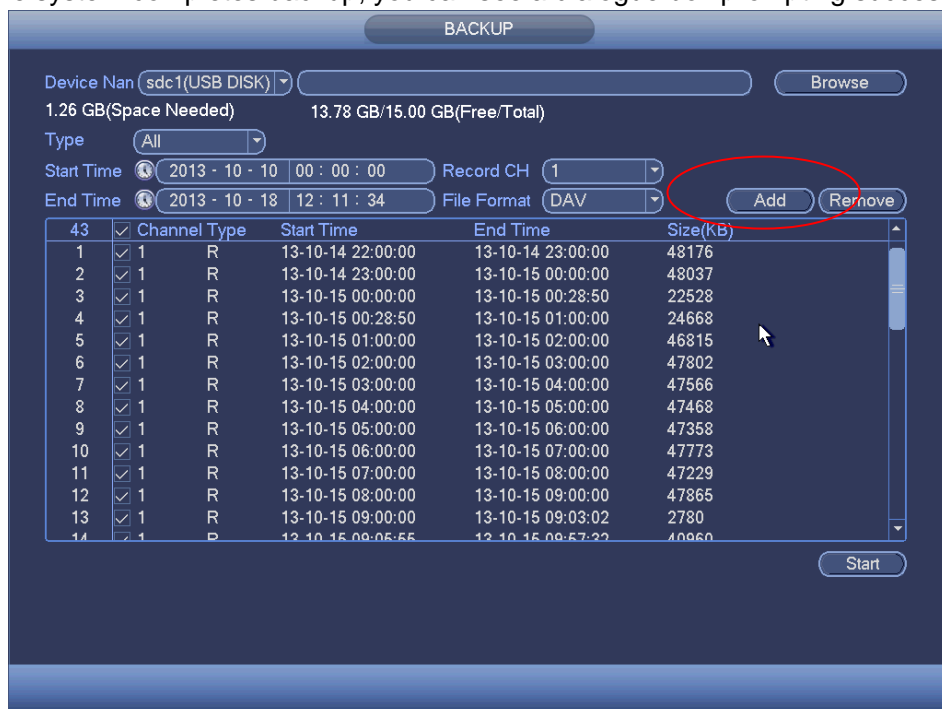

Figure 4-77
- d) Click add button, system begins search. All matched files are listed below. System automatically calculates the capacity needed and remained. See Figure 4-77.